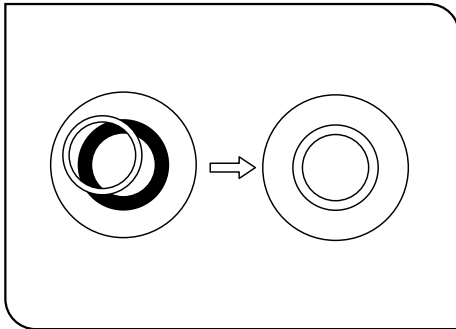

Fig. 2
7. Push in and rotate the optical element centering knobs to adjust centering of the phase contrast ring so that the bright ring in the field overlaps with the dark ring (Fig. 2).